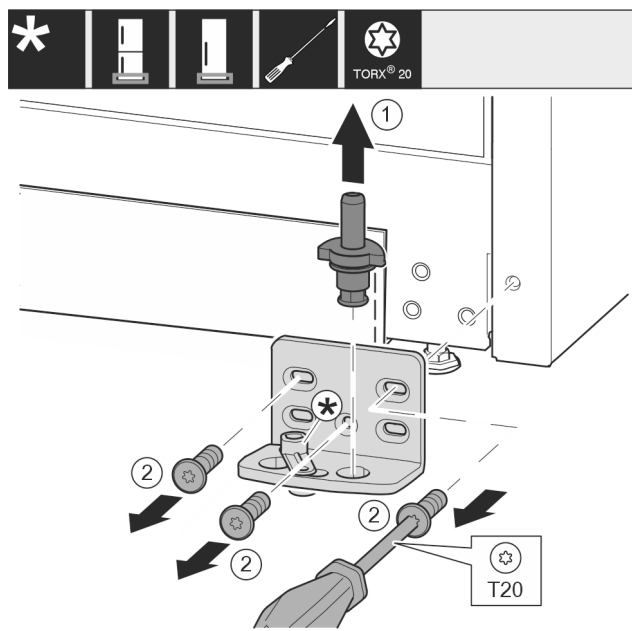

Fig. 13
- Pull the bearing bolt Fig. 13 (1) out upwards completely.
- Use screwdriver to unscrew the screws Fig. 13 (2) and remove the swap bearing block.